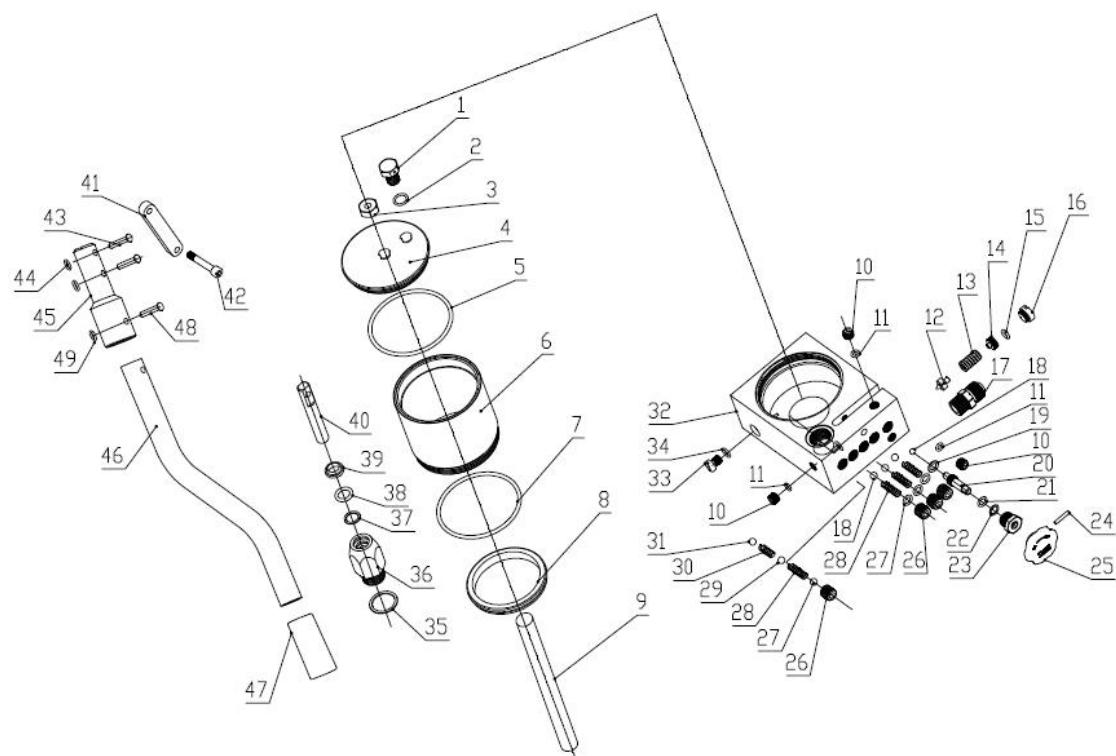

Fig.9
(2)、TWQ-V ' s the parts diagram of oil pump system(Fig.9)